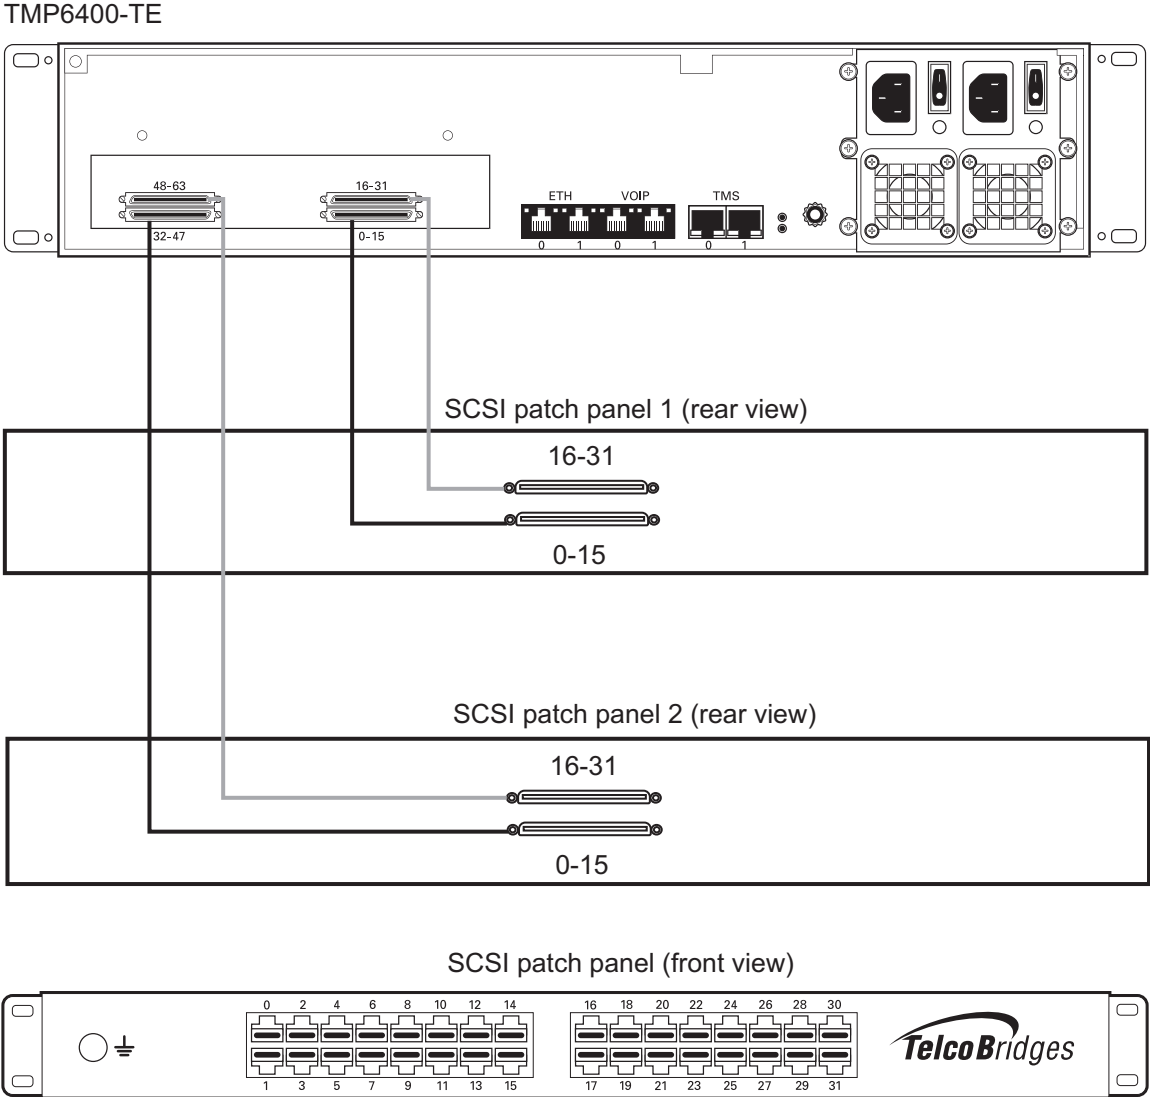

Figure 2.24 TMP6400 with SCSI connectors
1. Start with SCSI ports 0-15 located at the bottom right as shown in figure 2.24 on page 33. Connect one SCSI cable between this port and SCSI patch panel number 1, ports 0-15. Connect SCSI ports 16-31 to patch panel number 1, ports 16-31.